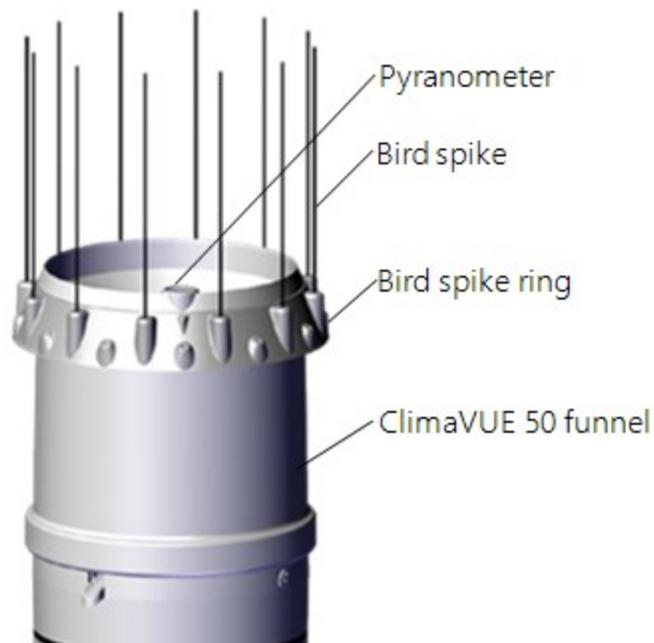

FIGURE 7-7. Bird-spike kit mounted properly
- Position the ring on top of the ClimaVUE 50 with the pyranometer aligned with the triangle between two spikes (FIGURE 7-7 (p. 18)); this will limit spike shadows on the sensor.
- Press finished bird deterrent onto the ClimaVUE 50 funnel to at least the depth shown in FIGURE 7-7 (p. 18).